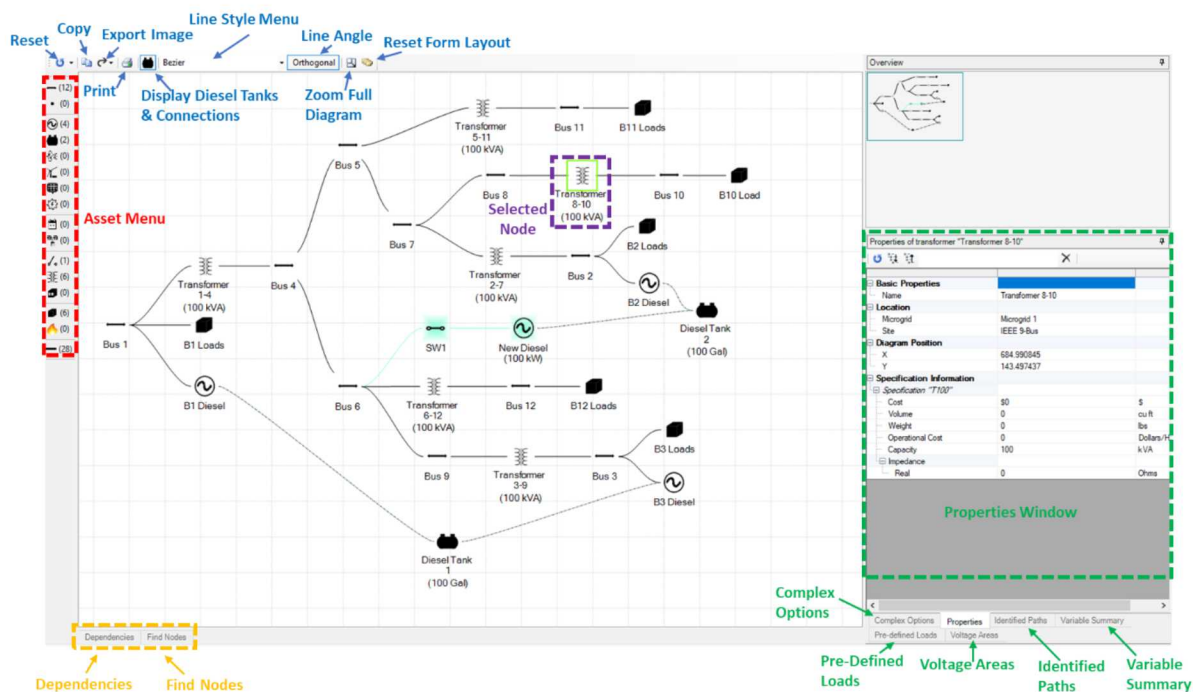

Figure 19. Overview of Diagram page.
To view asset properties, click on any node or line (highlighted in purple in Figure 19). The properties will be displayed on the lower right side of the screen in the Properties window (highlighted in green in Figure 19). Make sure the Properties tab is selected (right side of Figure 19). Assets can be expanded to view details and specification information. The diagram can also be copied to an image to be used in reports or presentations.
The asset menu on the left (highlighted in red in Figure 19) allows you to add new assets to the diagram.
The menu across the top of the diagram tool (Figure 19) allows you to:
- Reset Form Layout – Resets the microgrids listing display as seen in Figure 19. This is very useful for resetting the view to return to the original format if windows and tabs are rearranged in a manner that is challenging to undo. The reset from layout button will additionally recover lost or missing tabs within the properties window displayed in green in Figure 19.
The tabs on the right of the diagram tool (highlighted in green in Figure 19) display:
The tabs on the bottom left of Figure 19 highlighted in orange display: